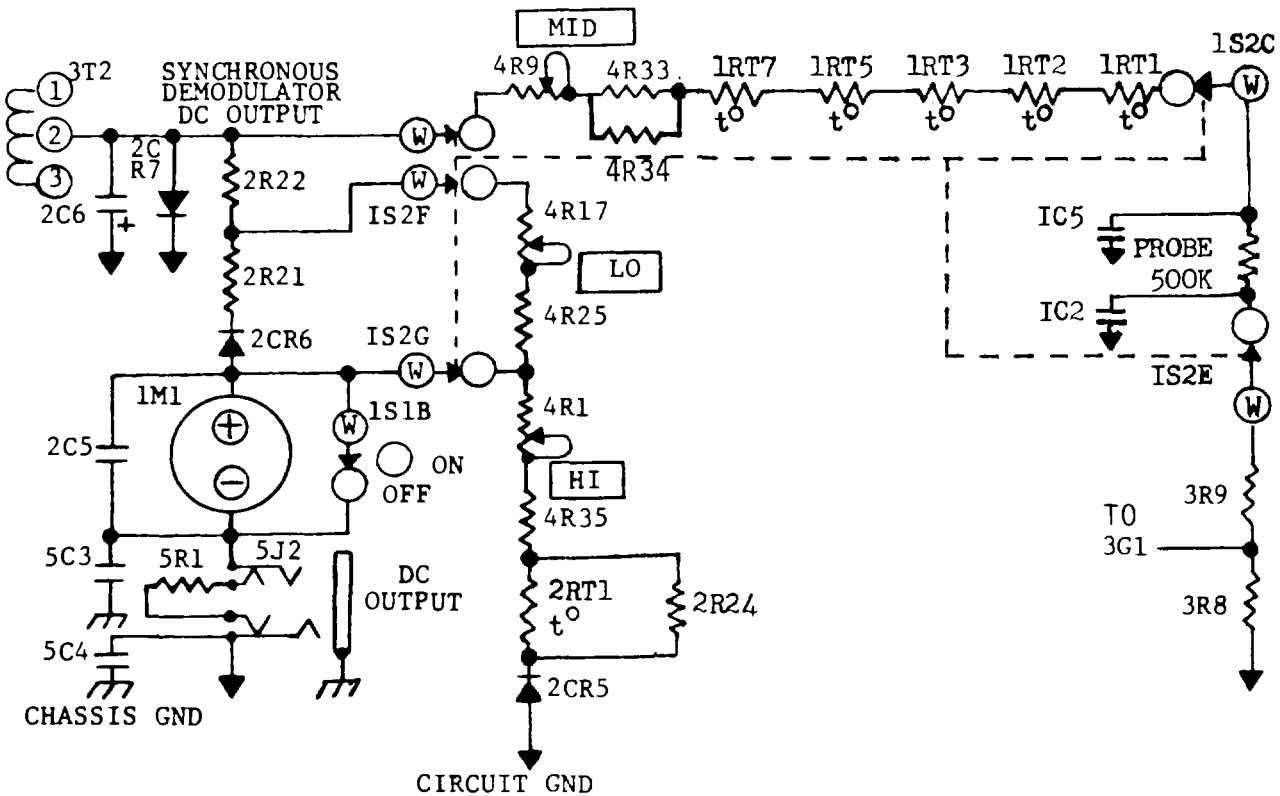

Figure 4-2. Linearizing correction network.
The "HI" and "LO" calibration controls are used to adjust the 100% and 30% of full scale meter readings, respectively. These two (2) controls are part of the output linearizing network and provide accurate linearization correction adjustments. For a better understanding of the output linearizing network and calibration controls circuitry, Figure 4-2, linearizing correction network, details the 0.001V full scale range. A brief description follows: